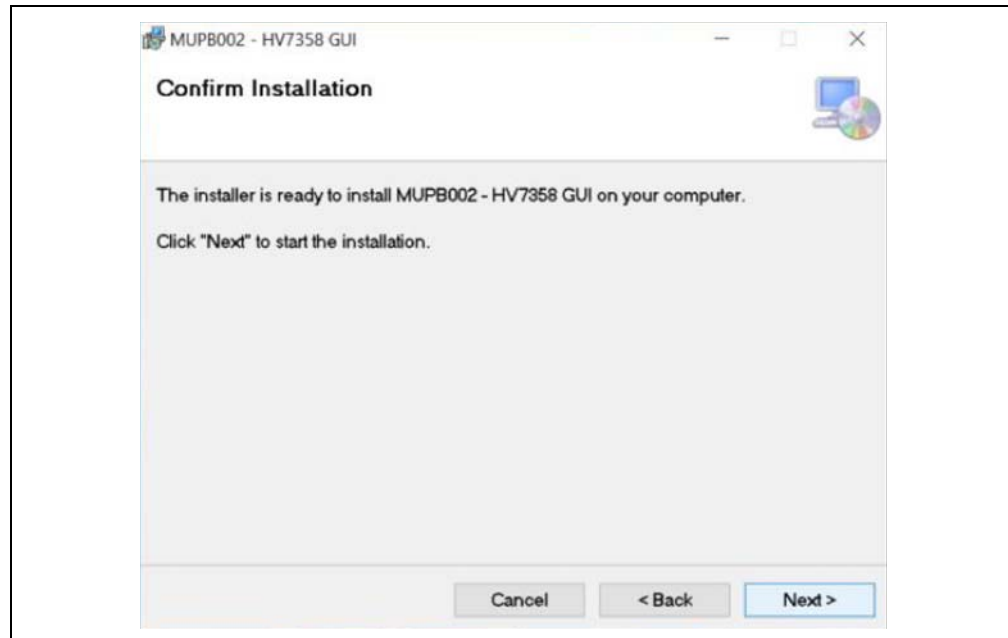

FIGURE 2-13: *Installation Confirmation.*
- The next window, shown in Figure 2-13, confirms that you are ready to install the HV7358 GUI. If so, click **Next**; otherwise, you can go back and make changes or **Cancel**.